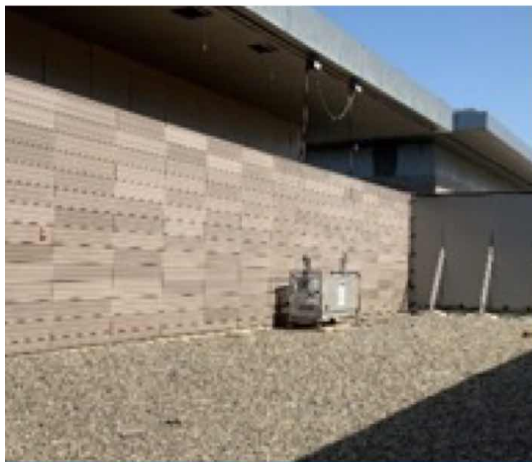

Fig. 1 - Exterior Wall Condition of Mechanical Room
- Air sealing without the need to remove the terra cotta panels used as the mechanical room's exterior finish (Fig. 1).